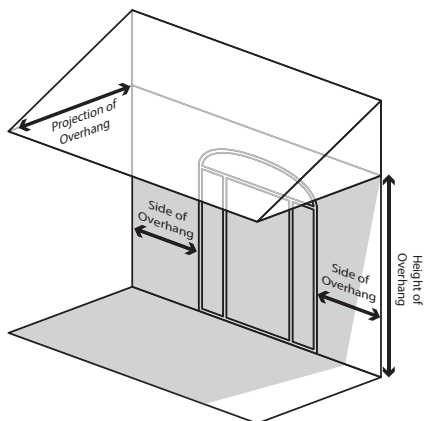

Figure 1
- The entryway must provide adequate protection against the elements. See Figure 1.